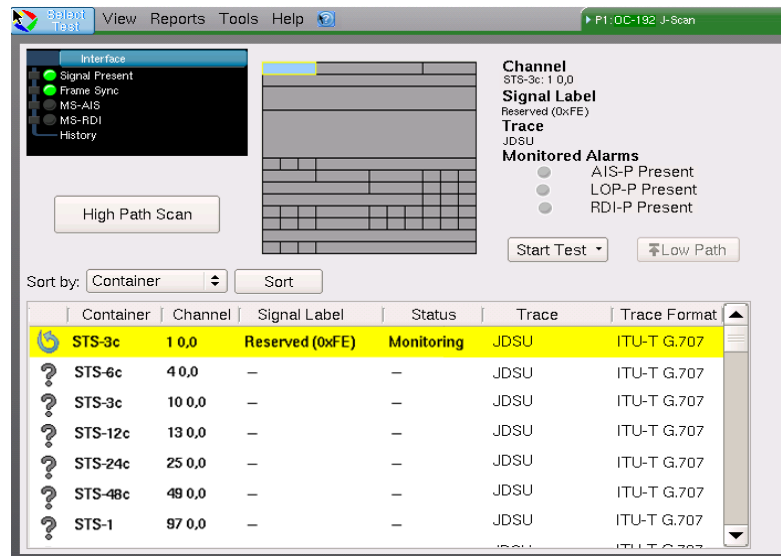

Figure 4 Signal Map Page
- 4 Select the **J-Scan** softkey. The instrument automatically displays a map showing the high path structure of the detected containers and channels (see Figure 4).